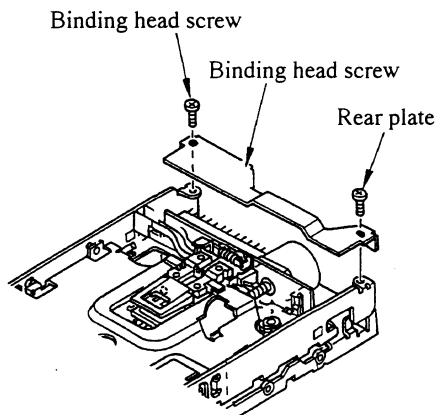

Fig. 4 - 8 (a)
- a) Remove the two rear plate mounting screws (binding head screws) and remove the rear plate as shown in Fig. 4 - 8 (a).